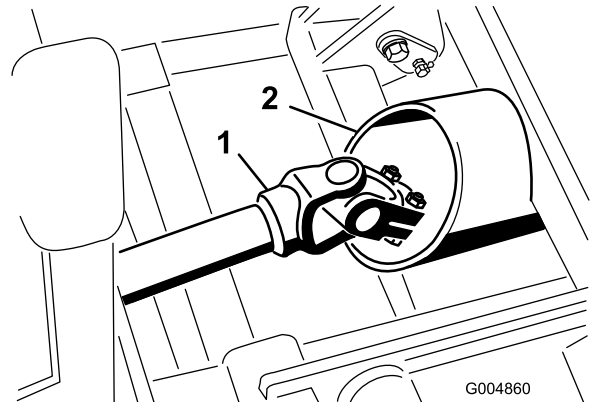

Figure 108
18. Carefully roll the winter frame assembly into position while routing the drive shaft through the frame tube (Figure 108).